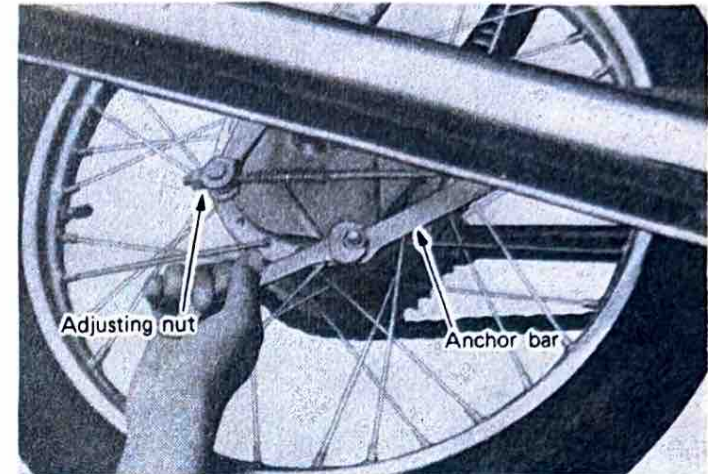

Fig. 33
- (1) Remove the 13 mm adjusting nut at the end of the brake rod.
- (2) Remove the cotter pin and the bolt holding bar to the hub. (Fig.33)
- (3) Unscrew the outer and inner axle nuts and pull out the axle from the right side.
- (4) Pull the wheel to the left to separate its hub. Leave the sprocket and hub clutch on the swing arm.